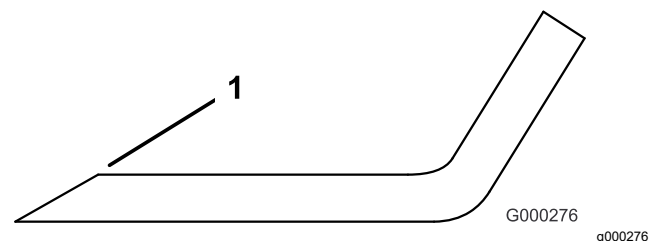

Figure 86
3. Examine the cutting edges of all the blades and sharpen the cutting edges if they are dull or nicked (Figure 86).
Note: Sharpen only the top of the cutting edge and maintain the original cutting angle to ensure sharpness (Figure 86). The blade remains balanced if the same amount of metal is removed from both cutting edges.